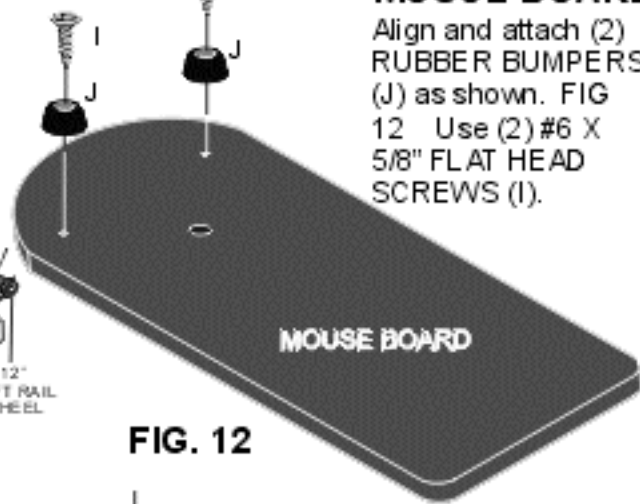

FIG. 12
Lay KEYBOARD SHELF, drilled side facing up, on a flat, non-scratch surface. NOTE: Lot label indicates FRONT of KEYBOARD SHELF. Align and attach (1) 12" RIGHT DRAWER RAIL (U) to left side of panel, wheel on rail to the REAR, using (2) #6 X 5/8" FLAT HEAD SCREWS (I) as shown. FIG. 12 Align and attach (1) 12" LEFT DRAWER RAIL (V) to right side of panel, wheel on rail to the REAR, using (2) #6 X 5/8" FLAT HEAD SCREWS (I). NOTE: Front end of rails will sit back 1-1/4" from edge.
Align and attach (2) RUBBER BUMPERS (J) as shown. FIG. 12 Use (2) #6 X 5/8" FLAT HEAD SCREWS (I).